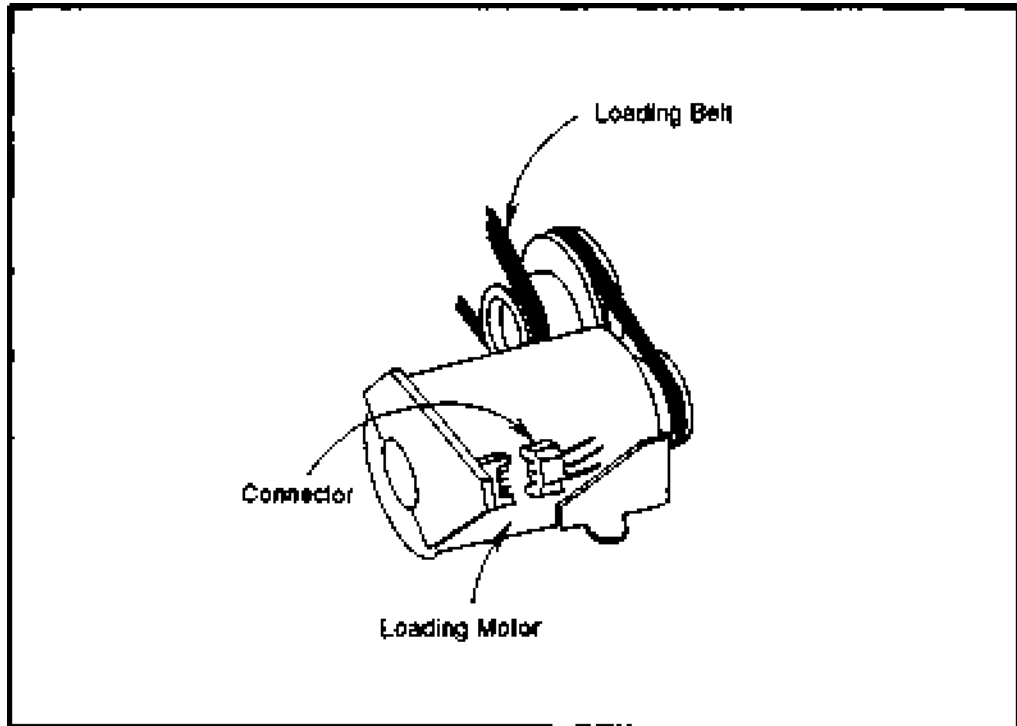

Figure 37: Loading motor assembly
Figure 37 shows the loading motor assembly. Removal of the motor is described here:
- Disconnect the connector as shown in Figure 37